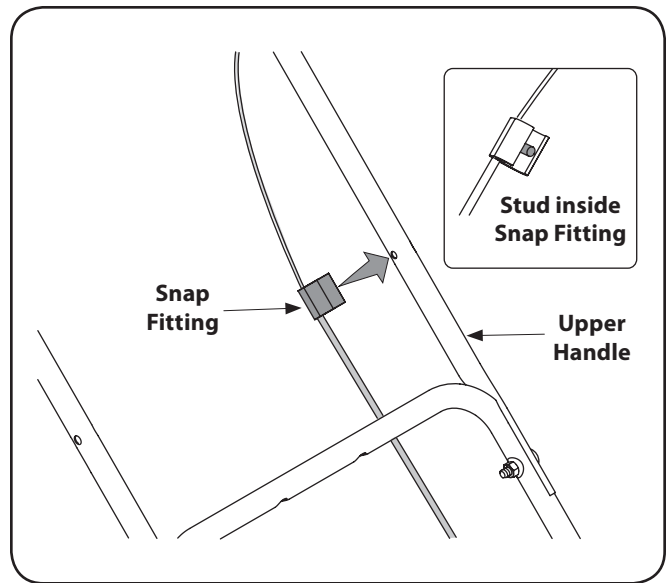
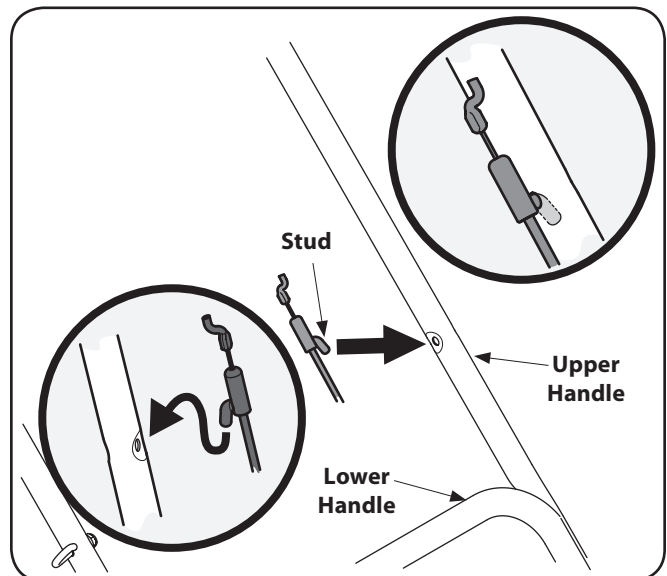

Figure 3-7
Figure 3-8
**NOTE:** Your mower has been supplied with one of two types of control cables - one that is secured with a snap fitting as shown in Fig. 3-7 or one that is secured with a stud as shown in Fig. 3-8. Make note of the cable supplied with your mower and follow the appropriate steps below.
1. Press the stud found inside the snap fitting into the hole found on the left side of the upper handle, as shown in Figure 3-7.
1. Press the stud found on the cable fitting into the hole found on the left side of the upper handle, as shown in the Fig. 3-8 insets.